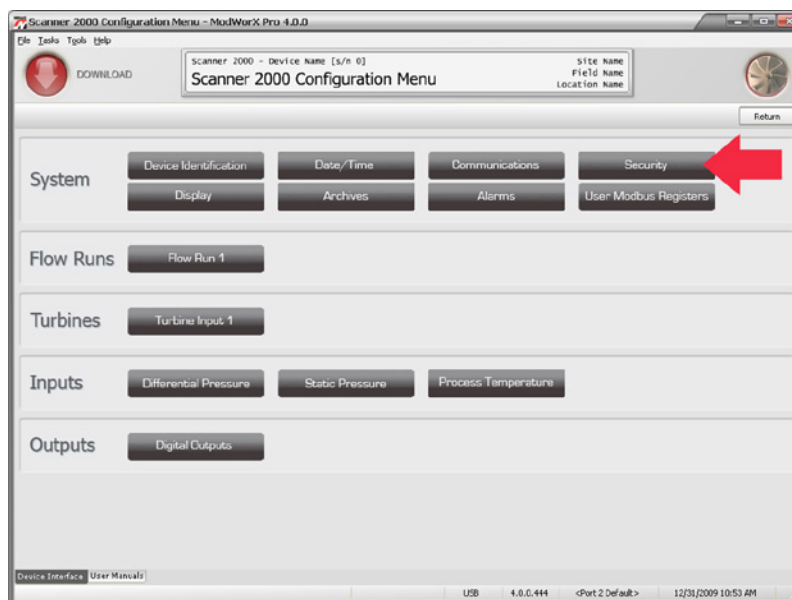
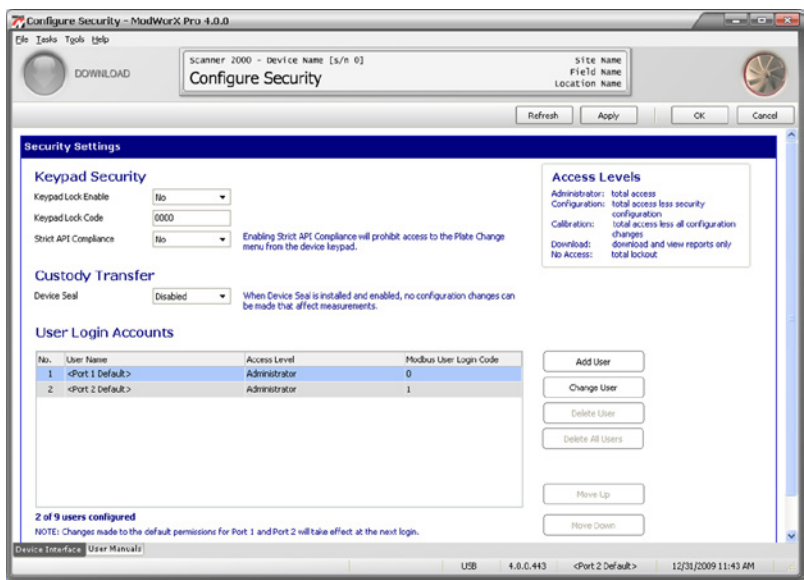

Figure 3.13
Figure 3.14
1. Click the **Configure** button on the Main Display screen. Then, click the **Security** button on the Configuration Menu screen (Figure 3.13, page 39). The Configure Security screen (Figure 3.14, page 40) will appear.
When a device seal is installed on a Scanner 2000 for compliance with Measurement Canada custody transfer regulations, the Device Seal status on the Configure Security screen must be set to **Enabled** to prohibit configuration changes that can affect measurements (Figure 3.14, page 40). The clearing of flow totals is also prohibited when the device seal is installed and enabled. See the Scanner 2000 User Manual, Part No. 9A-30165023, for instructions on installing the device seal for compliance with Measurement Canada regulations.